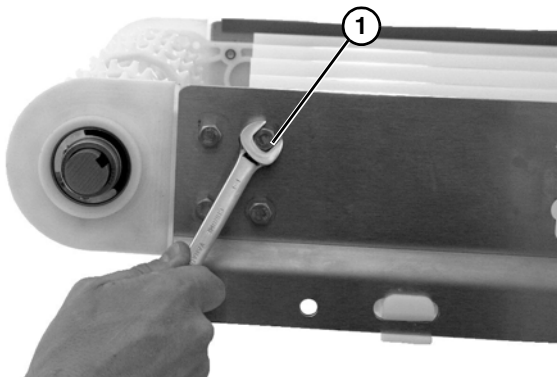

Figure 55
4. Remove the four head plate bolts (Figure 55, item 1) on both sides of the conveyor.